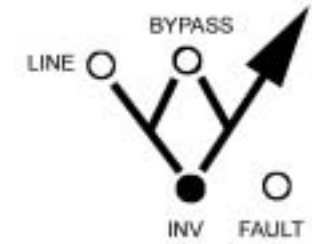

Fig2-2
The battery mode is the other operating mode of the UPS. The UPS operates on this mode when the ac utility is abnormal. During this mode, the battery of the UPS discharges because it supplies power to the devices connected to the UPS. Please refer to Fig 2-2 for the display on the UPS in this mode.
- The display is as Fig 2-2.